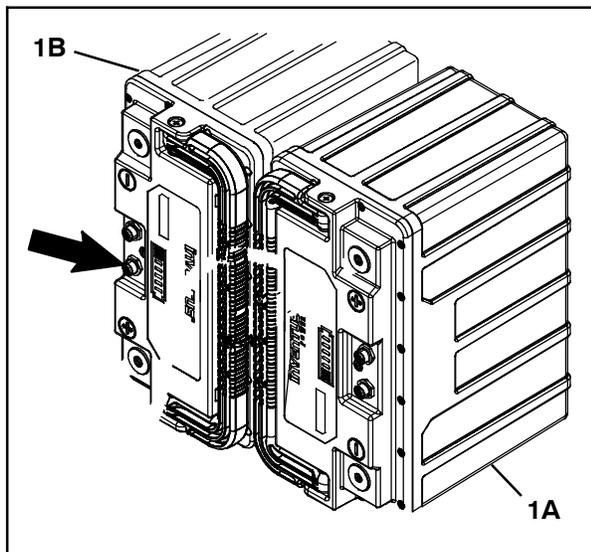

FIG. 38
30. Connect the UI to BMS electrical harness (19) to lithium battery 1B communication terminal. (Fig. 38)